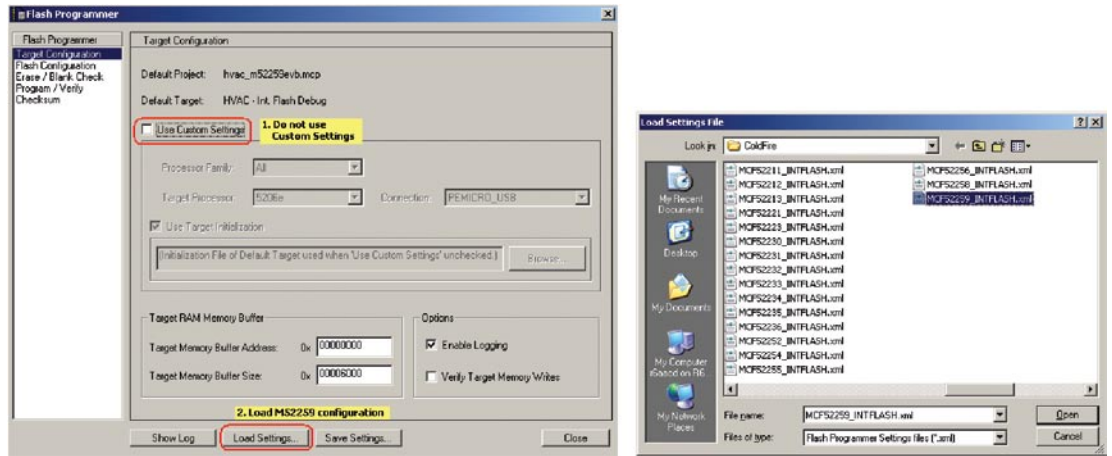

Figure 4: Opening Flash Programmer Tool
8. Open the “Flash Programmer” tool in the *Tools* menu. Make sure the “Use custom Settings” checkbox is not selected (i.e. the configuration will be taken from the project). See Figure 4 below.